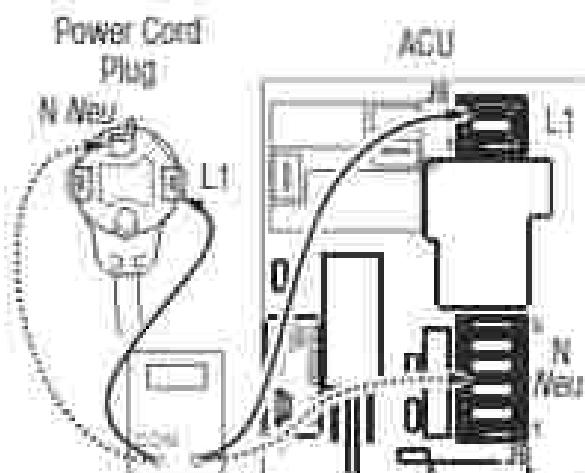

Figure 3 • Plug-to-terminal connections for electric dryer.
4. With an ohmmeter, check the continuity from L1 and N plug terminals of the power cord to the terminals for L1 and N on the ACU. See figure 3, page 3-11.